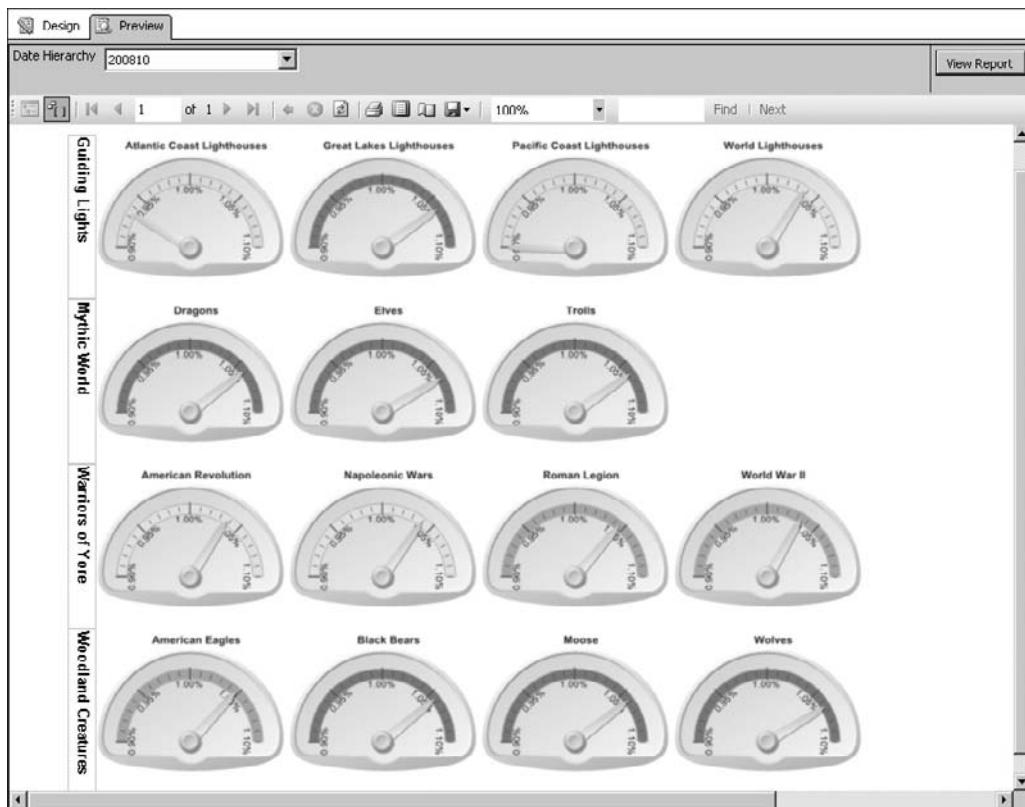

Figure 16-67 The Percent Rejected Dashboard Report preview
81. Click the Preview tab. The report preview is shown in Figure 16-67.